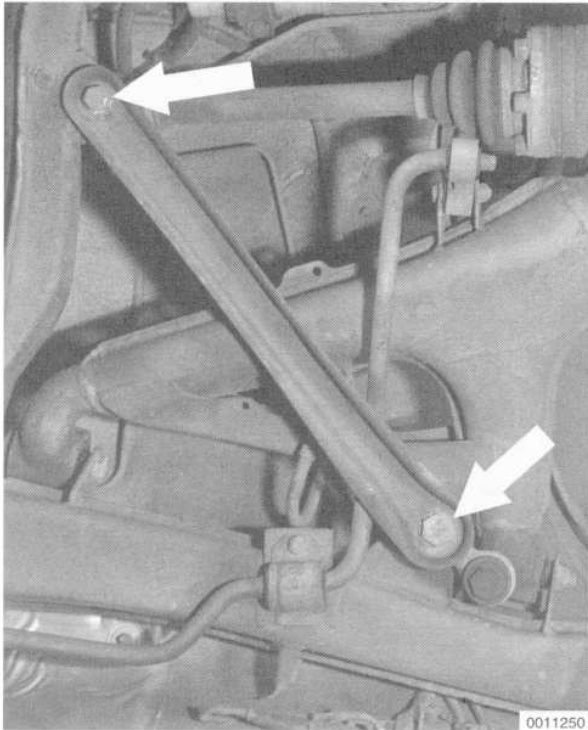

Fig. 16. Diagonal support mounting bolts (arrows).
11. If removing the right side trailing arm, unbolt the diagonal support arm from the connecting link, then loosen the other end of the arm and swing it out of the way. See Fig. 16.